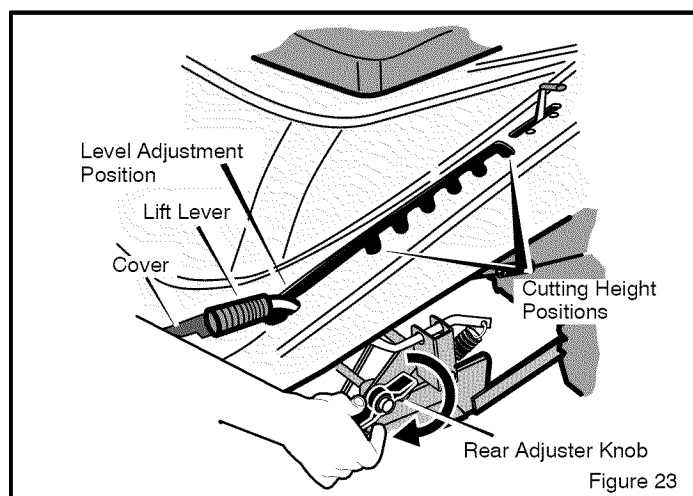
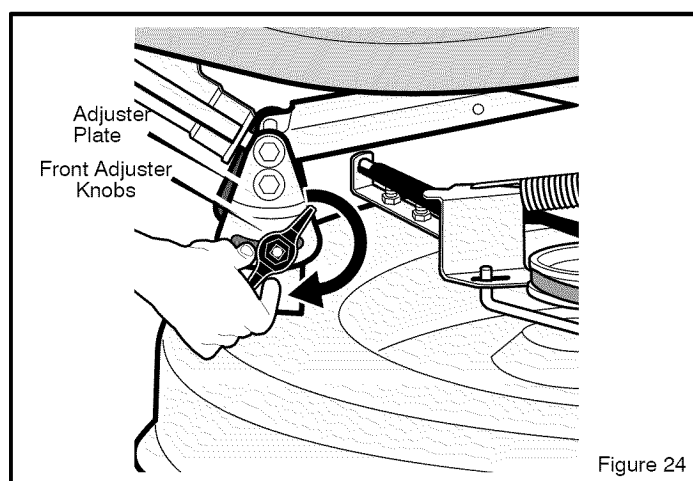

Figure 23
Figure 24
4. Open the **cover** (see Figure 23).
5. Move the **lift lever** to the LEVEL ADJUSTMENT position (see Figure 23).
6. Loosen the front and rear **adjuster knobs** (see Figure 23 and Figure 24). Make sure both sides of the mower housing are setting on a flat surface.
7. Make sure that the adjuster plate is loose and can easily move up or down (see Figure 24).